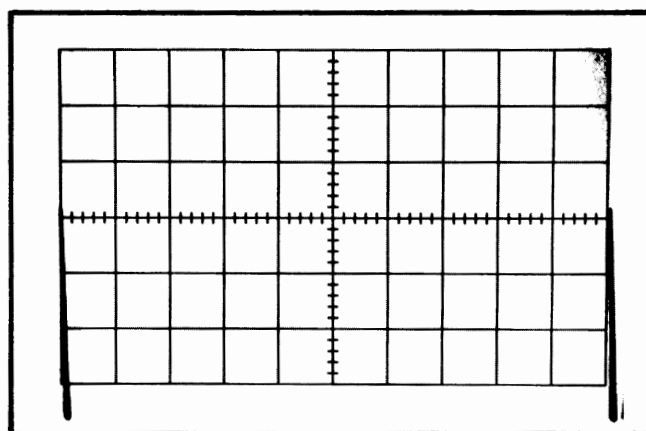

Fig. 5-38. Typical CRT display when checking delayed-sweep accuracy.
- c. CHECK—Using the A TIME/DIV switch, B TIME/DIV switch and time-mark generator settings given in Table 5-7, check delayed sweep accuracy within the given tolerance. First set the DELAY-TIME MULTIPLIER dial to 1.00 and rotate the dial until the sweep starts at the top of the second marker (see Fig. 5-38). Note the dial reading and then set the dial to 9.00 and rotate until the sweep starts at the top of the tenth marker. DELAY-TIME MULTIPLIER dial setting must be 8.00 divisions higher, + or— the allowable error given in Table 5-7.